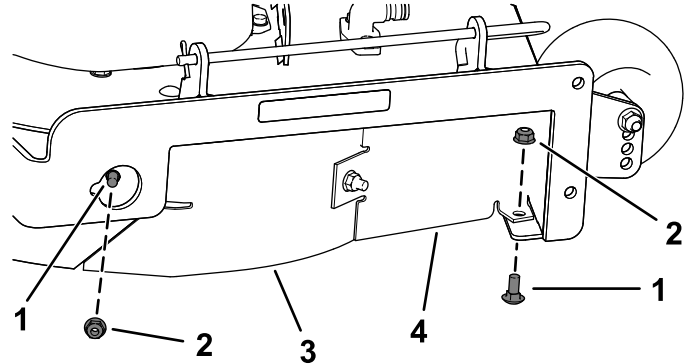

Figure 29
7. Remove the 2 carriage bolts (5/16 x 3/4 inch) and 2 locknuts (5/16 inch) securing the assembled right baffle and baffle guard to the mower deck (Figure 29).